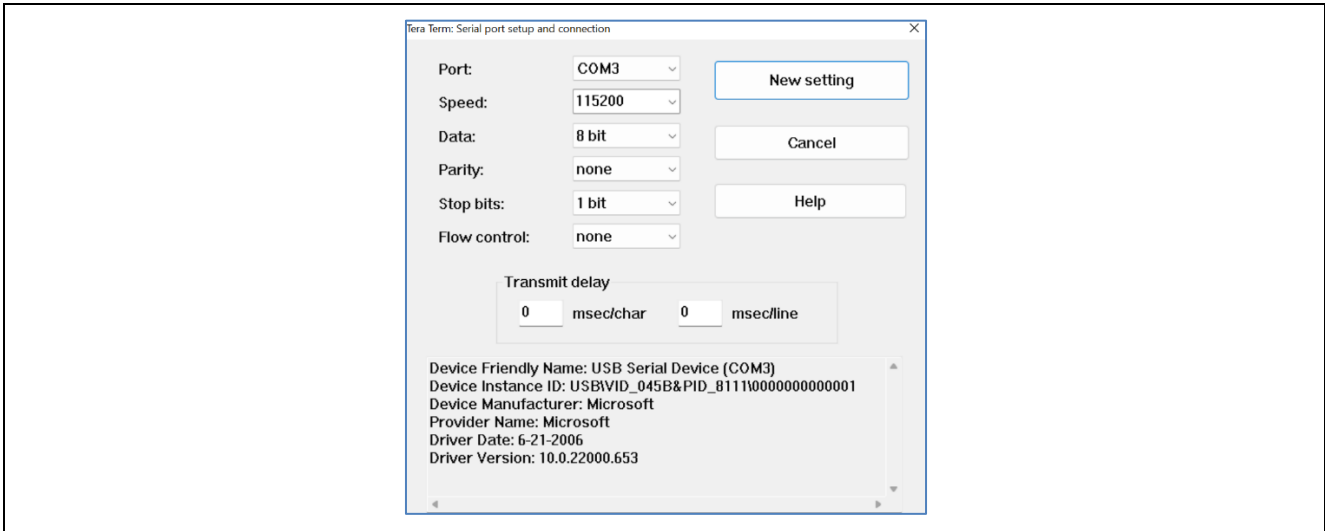

Figure 8. Selecting 115200 on the Speed Pulldown
- Using the **Setup** menu pull-down, select **Serial port...** and ensure that the speed is set to **115200**, as shown in Figure 8. Click **New setting**.